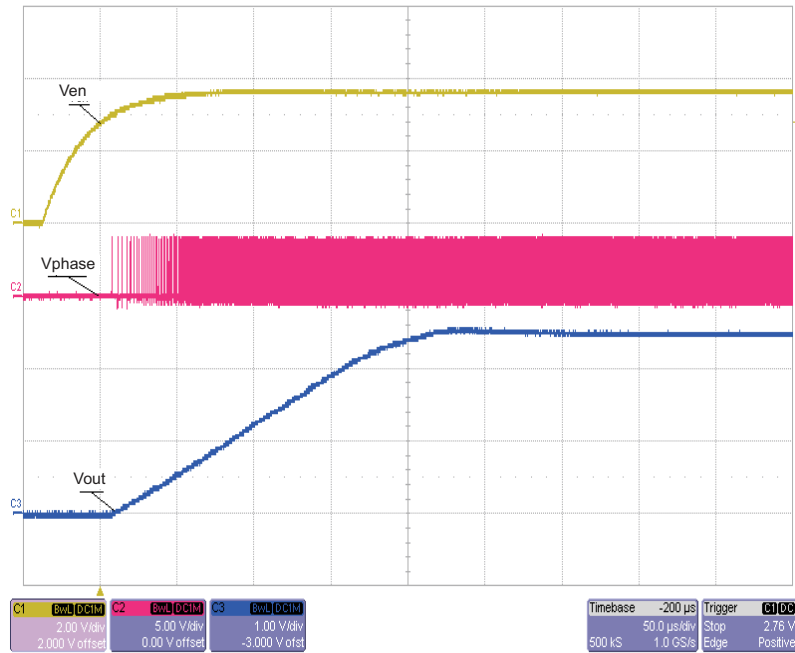

Figure 8. Power-Up Output With EN pin. Vin = 4 V, Vout = 2.5 V, Iout = 0.5 A; CH1 = Input Voltage; CH2 = Phase; CH3 = Output Voltage
9. Set scope to positive trigger, arm scope and remove short between JP2-1/2. The captured waveform shows output power up by pulling EN high (Figure 8).